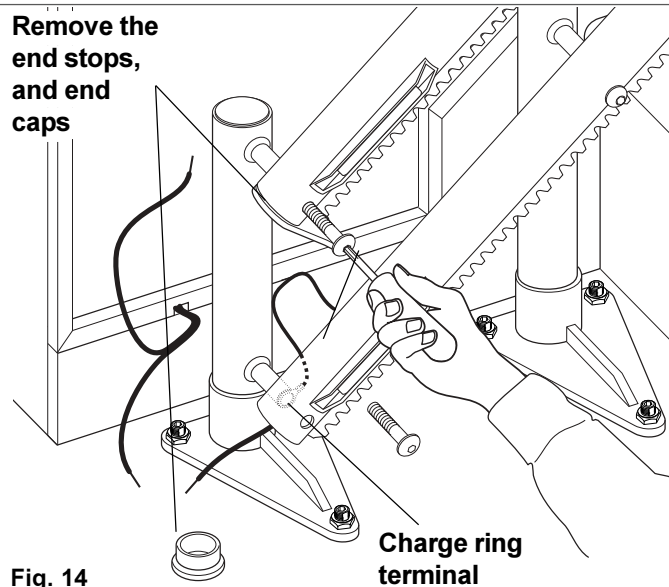

Fig. 14
- 1 Remove the upper and lower track end stops, and end caps (Fig. 14).
Shown as a broken line in Fig. 14.